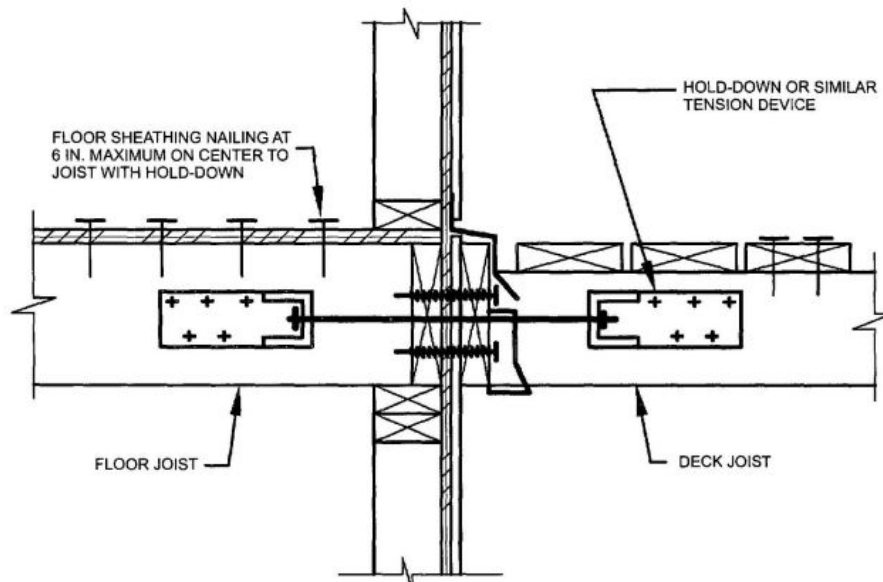

Figure 5.1
**All decks attached to engineered lumber cantilevers must comply with Figure 5.1 shown on page 6. All cantilever decks must have lateral load brackets installed.**